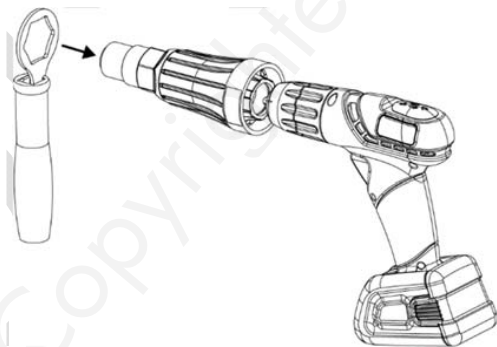

Figure 5
- CAUTION:** If the blind rivet to be used is difficult to fasten, the counter-rotational force will be stronger. It is recommended to install the extension handle (figure 5). And it is highly recommended to start the power drill slowly.